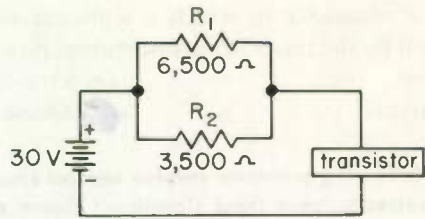

Fig. 41
16. If the transistor in Fig. 41 draws 5 mA, what is the voltage across the transistor?